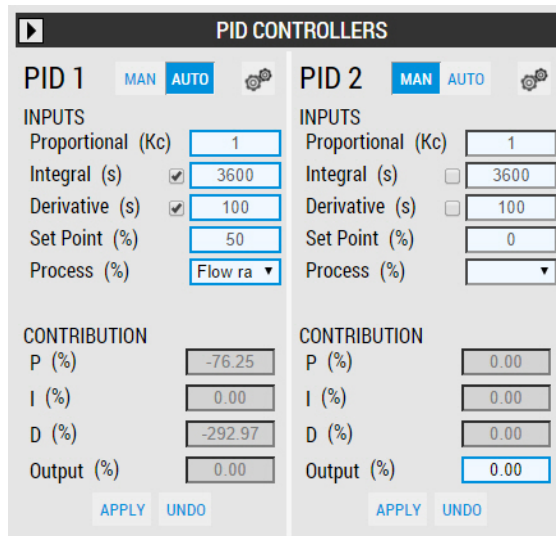

Figure 16. PID Controllers section.
There are two configurable controllers (PID1 and PID2), at the right, in the PID Controllers section (Figure 16). For each controller, you can set the tuning constants, the set point, and select a controlled variable (Process %).
Figure 16 shows the PID Controllers section. At the top, you can set the controller gain, integral time, and derivative time. Those parameters correspond to K_c , T_i , and T_d in Equation (1). Below those parameters, you can adjust the set point and select the controlled variable from the drop-down list. The controller gain, set point, and controlled variable are mandatory to achieve at least proportional control. Integral action and derivative action are not enabled by default. To enable them, check the box beside the name of the parameter. Each time you modify a parameter you must click the *Apply* button to apply changes; until you click this button all modified parameters are shown with a yellow background.